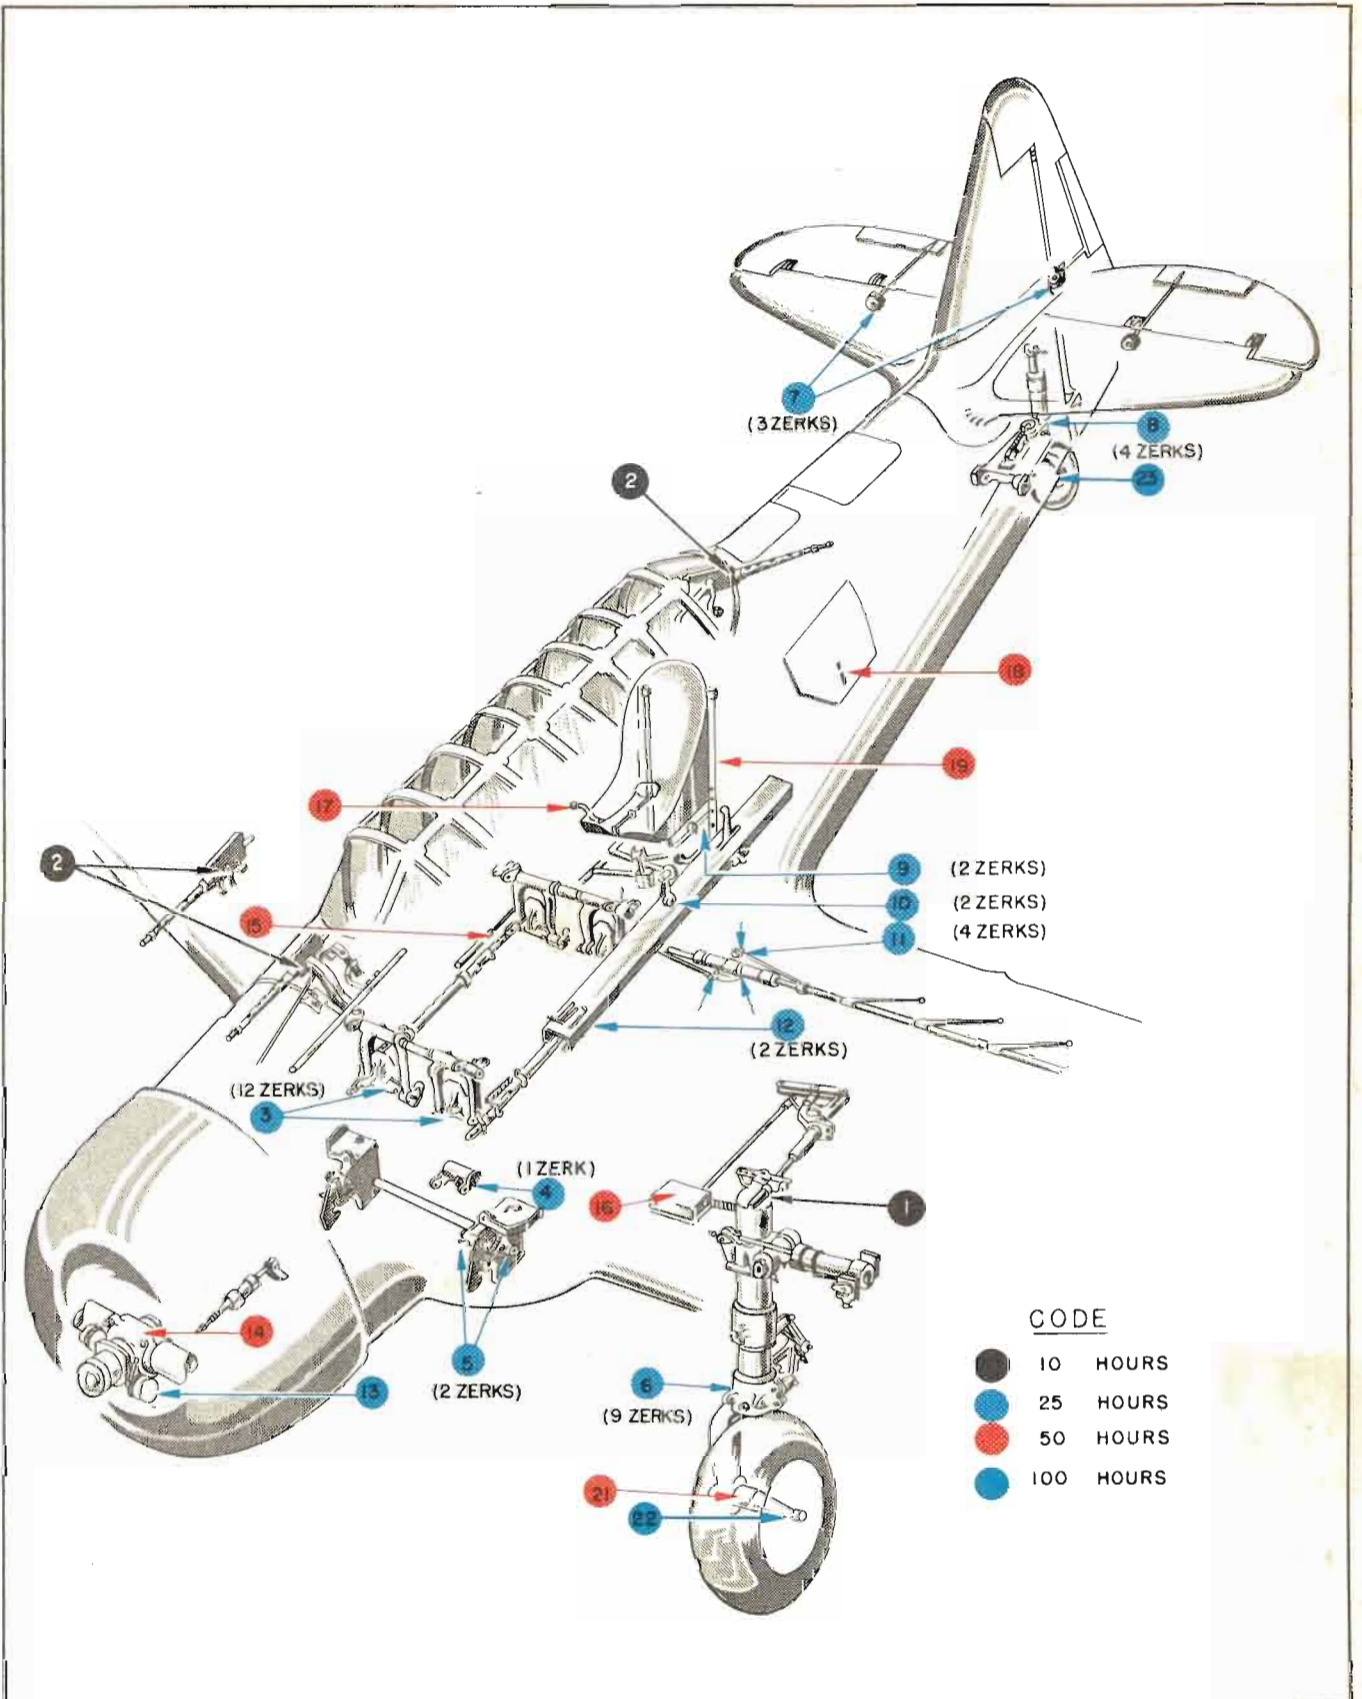

Figure 38 — Lubrication Diagram
- (4) For the last 2 minutes of the dilution, operate propeller pitch control to get change of 400 rpm. Repeat three times.
a. GENERAL.—See figure 38 for lubrication instructions including the period, location, and type of lubricant used. A zerk-type grease gun, located on the lower left engine mount tube and packed with low-temperature lubricating grease, provides means of lubrication at points equipped with zerk-type lubricator fittings. The lubricator fittings are painted *yellow* to insure ready identification. Ball bearings used in pulleys, bell cranks, hinge points, and rod ends are of the sealed type, packed with lubricant at assembly and require no further lubrication. Where light lubricating oil is specified but not available, clean engine oil will be found satisfactory. Where possible, assemblies requiring lubrication shall be lubricated at point of assembly. Excess application of lubricants is to be avoided. Do not apply oil or grease to cockpit enclosure tracks, as this will tend to attract dust and grit, causing difficulty in operation. Excess lubricant, exterior to the bearing surfaces, will attract dirt and grit and may cause malfunction of the mechanism.
(1) Seat adjustment tubes, etc., require only a thin film of grease. Do not lubricate lightly-loaded slides that work freely unless protection against corrosion is necessary.
(2) Most of the ball bearings used in the airplanes are of the sealed type and are prepacked with lubricant by the manufacturer. These bearings need no further attention. Unsealed ball bearings and needle bearings shall be packed with grease to approximately 2/3 capacity. When antifriction bearings are completely filled with lubricant, the following troubles are likely to occur:
Key to Figure 38